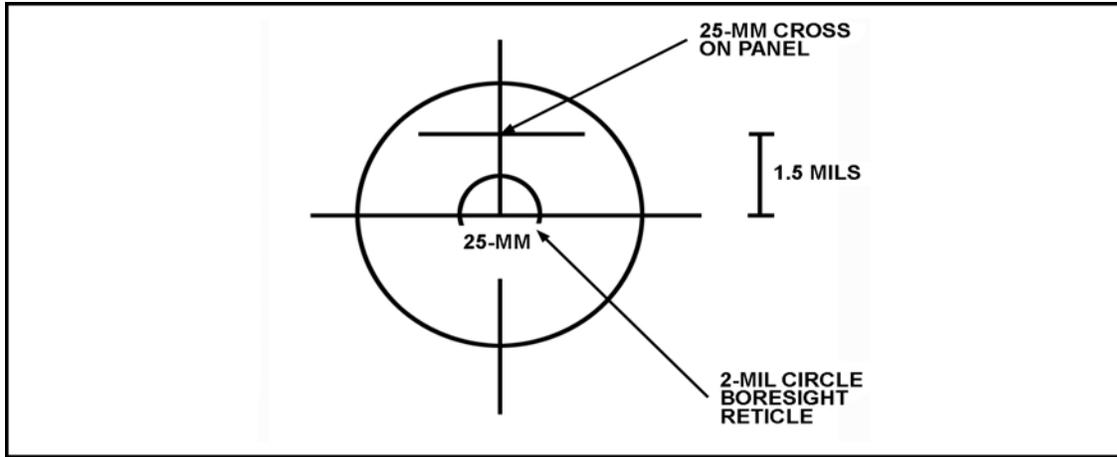

Figure B-52. Distance between aiming points.
- (4) Elevate the gun to align the ISU reticle with the ISU cross on the panel.
- (5) (Helper) note the aiming point of the boresight reticle.
- (6) Elevate the gun. Use the gun handwheel to elevate the gun until the bottom of the ISU reticle touches the top of the ISU cross on the panel.
- (7) Depress the gun to align the ISU reticle with the ISU cross on the panel.
- (8) (Helper) note the aiming point of the boresight reticle.
- (9) Measure backlash. Helper--
- Use the 2-mil circle of the boresight reticle to estimate the distance (in mils) between aiming points observed in elevation and depression. The backlash measures 1.5 mils for the example shown in Figure B-52, page B-38.